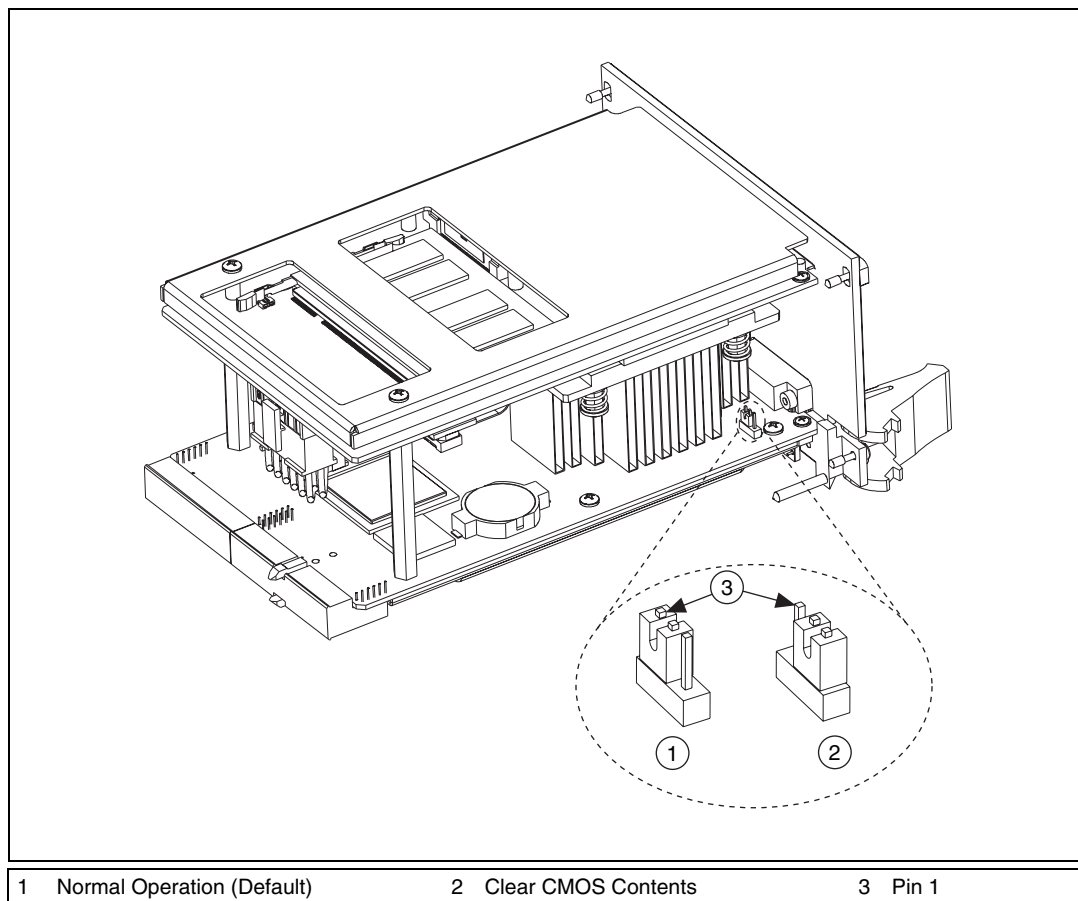

Figure 2-3. Clearing the CMOS Contents
3. Move the jumper on W7 from pins 1–2 to pins 2–3, as shown in Figure 2-3.